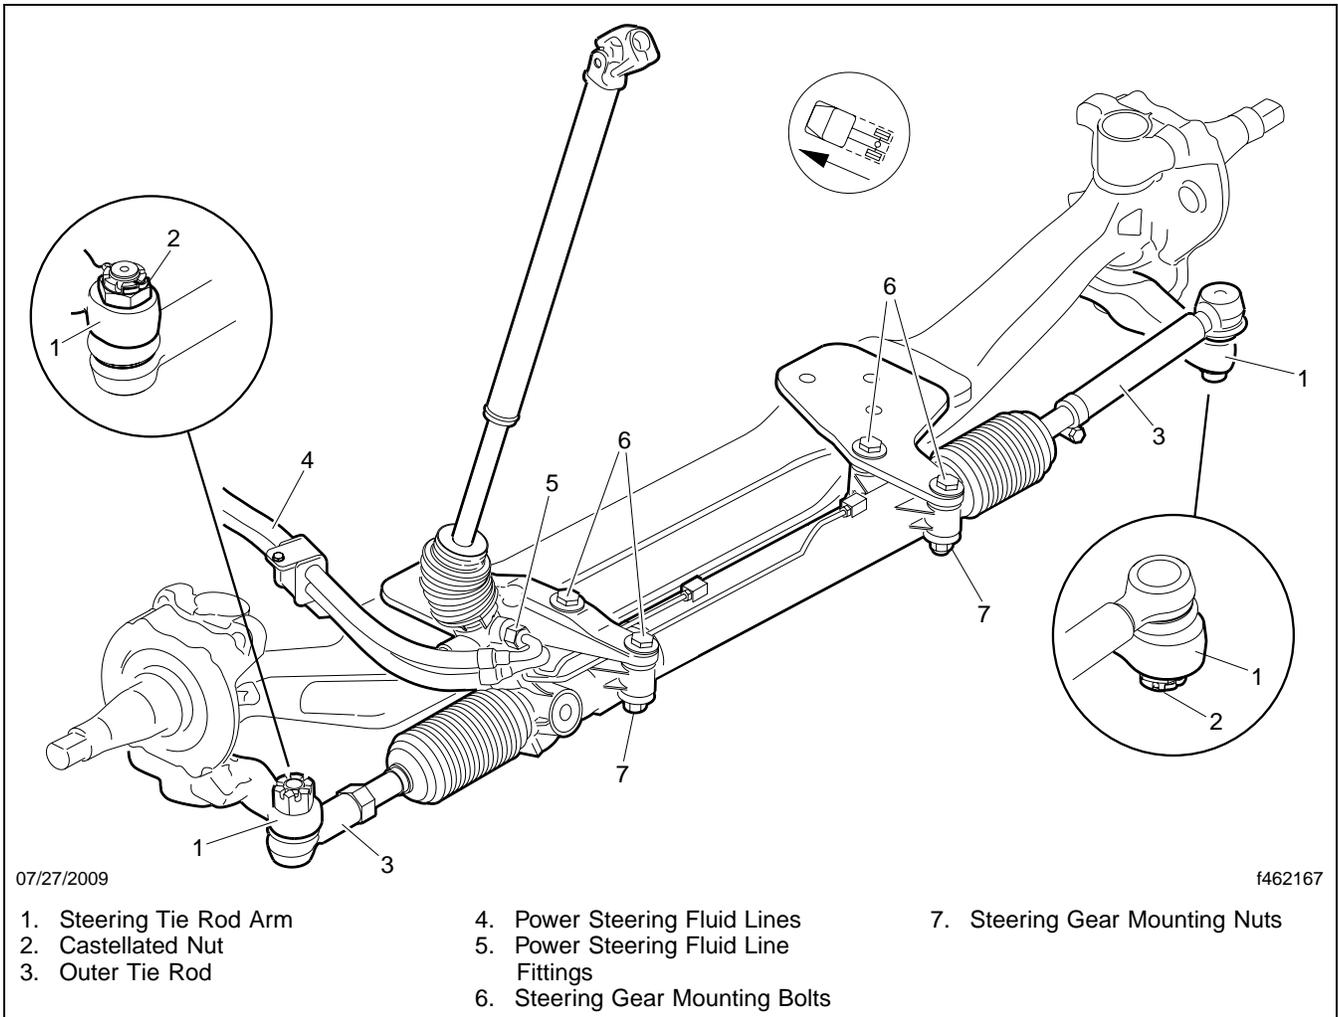

Fig. 31, Rack and Pinion Steering Gear Assembly
14. If needed, install power steering fluid line fittings (**Fig. 31**, Item 5) on the steering gear and tighten 30 to 35 lbf-ft (41 to 47 N·m).